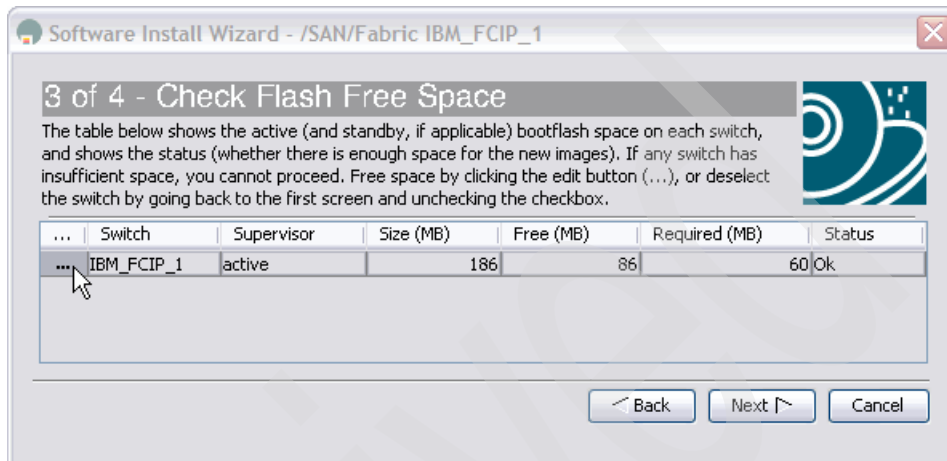

Figure 11-20 FM software update 3 of 4 flash check
10. The software has verified that we have enough space in our flash for our new images (Figure 11-20). Click **Next**.